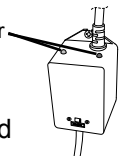

Figure 7
22. Once power is activated you can check the ballast (12), Figure 7, to see if the CLEARARRAY System is functioning. A solid green light indicates that the CLEARARRAY System is being provided power and should always be on. A solid red light indicates that UV lamp is activated.